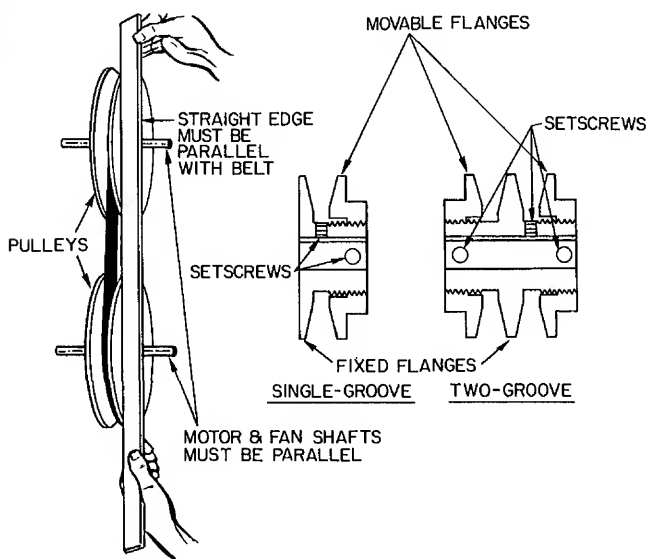

Fig. 21 — Indoor Air Fan Pulley Adjustment (50DP,DPE012,014 and 50DP016)
3. Loosen movable pulley flange setscrew (see Fig. 21).